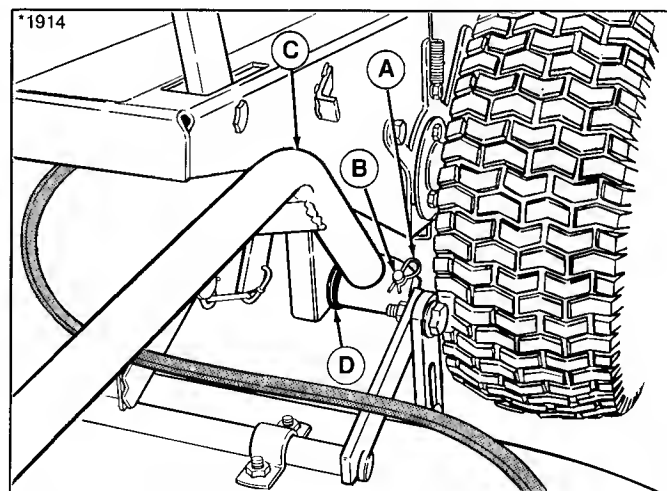

Figure 23. Hitch Arms
5. Remove the spring clips (A) and clevis pins (B) from mower hitch arms (C). Refer to figure 23. Drop mower hitch arms down. Remove large washer (D) from rider hitch arm. For storage, reinstall clevis pin (B) and spring clip (A) onto mower hitch arm with large washer in between hardware.
6. Install mower hitch arms to rider hitch arms. Refer to figure 23. Make sure large washer (E, figure 23) is placed on rider hitch arms. Secure with clevis pins and spring clips.